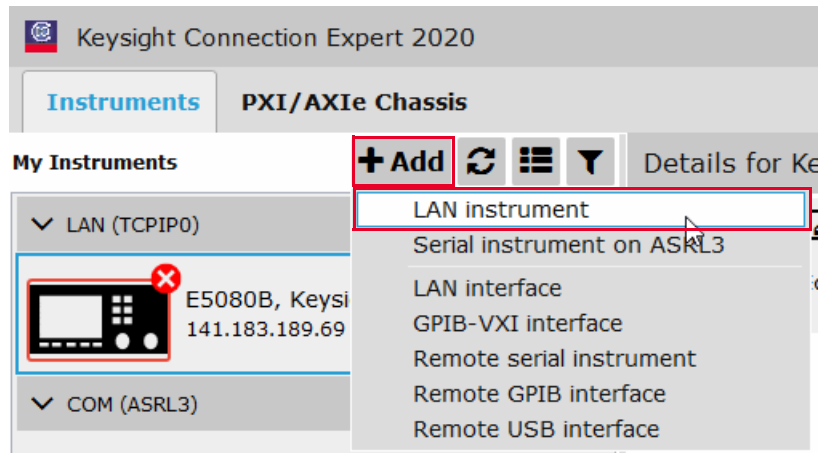

Figure 11-5 Adding a LAN instrument
- 2 Click the **+Add > LAN instrument** as shown in Figure 11-5.